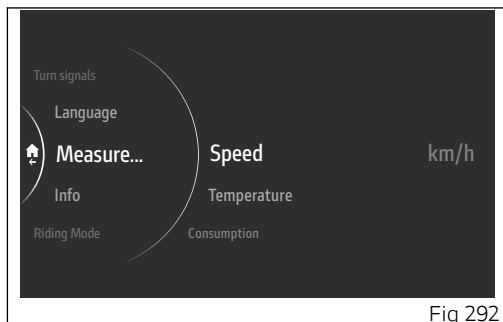

Fig 292
- Select the "Speed" item and press ENTER (Fig 292).